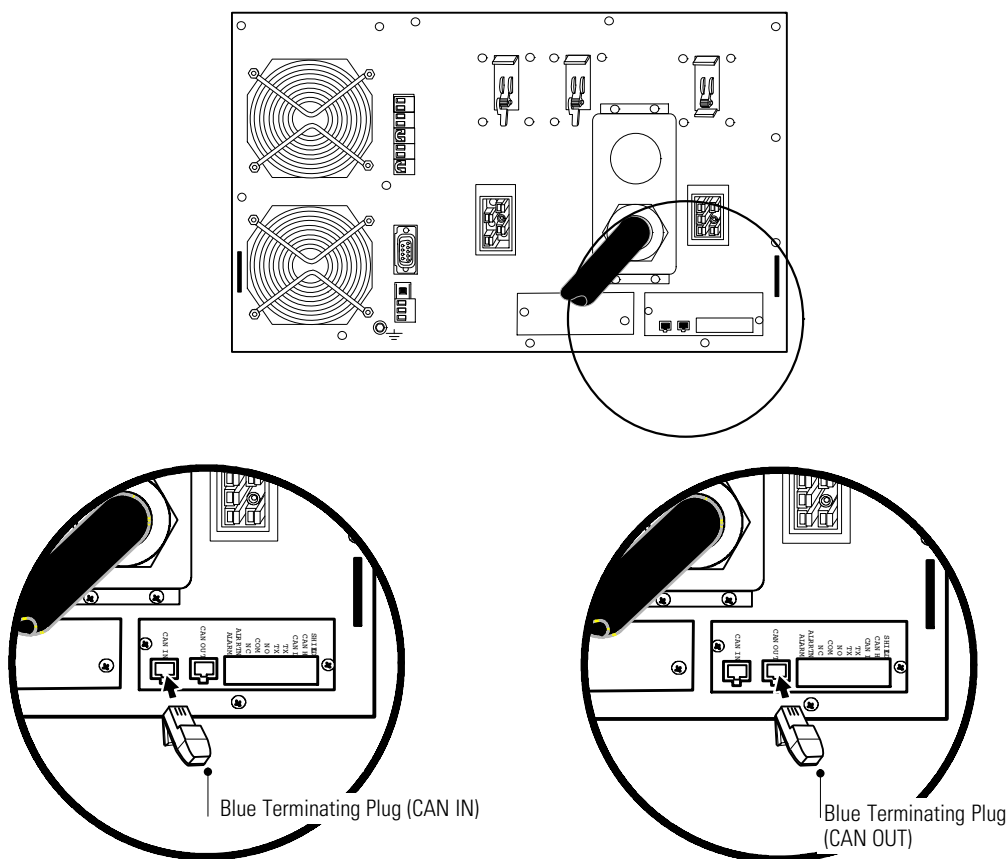

Figure 39. Installing the Blue Terminating Plug
- If you plan to install the UPS as the first UPS in the configuration, install one of the supplied blue terminating plugs (see Figure 39) into the CAN IN port on the UPS. Retain the second blue terminating plug for future use.
- If you plan to install the UPS as the last UPS in the configuration, install one of the supplied blue terminating plugs (see Figure 39) into the CAN OUT port on the UPS. Retain the second blue terminating plug for future use.